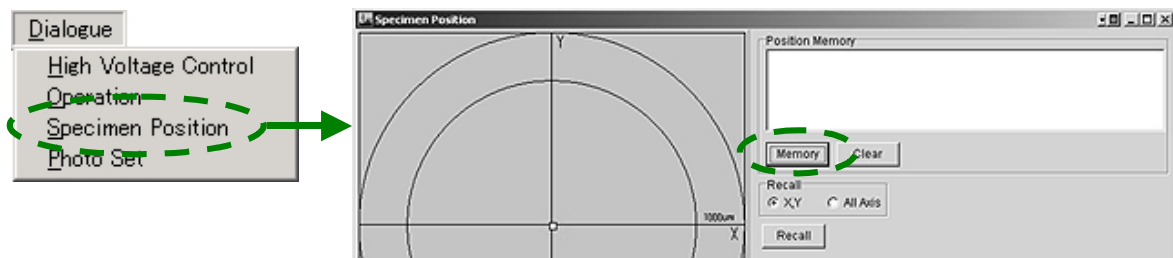

Fig. 5.49 Specimen Position window
4. Press the STD FOCUS button (R1-⑨) to set the objective lens current to the reference value.
5. Adjust the BRIGHTNESS knob (L1-⑥) for optimum brightness.
7. Move the field of view for microscopy to the screen center using the SC-① X and Y buttons or SC-② trackball.
8. Record the specimen position in the **Specimen Position** window, as necessary (☞ Fig. 5.49).